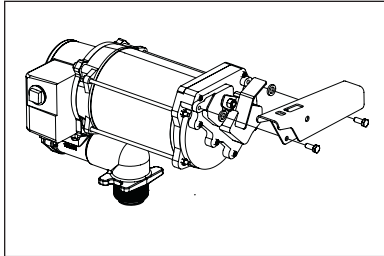

Figure 1
3. Align the bolts with the two threaded holes on the switch coverplate; thread the bolts into the holes. Torque bolts to 45-60 in/lb (Figure 1).